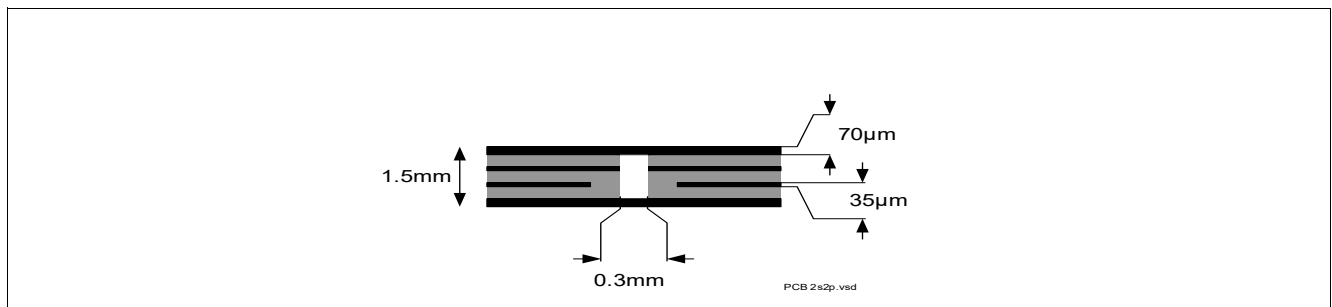

Figure 4 2s2p PCB Cross Section
- 2) Specified R_{thJA} value is according to JEDEC JESD51-2,-5,-7 at natural convection on FR4 2s2p board with 1 W power dissipation at $T_A=105^{\circ}\text{C}$. The product (chip + package) was simulated on a 76.4 x 114.3 x 1.5 mm board with 2 inner copper layers (2 x 7 μm Cu, 2 x 35 μm Cu). Where applicable, a thermal via array under the exposed pad contacts the first inner copper layer. Please refer to Figure 4.